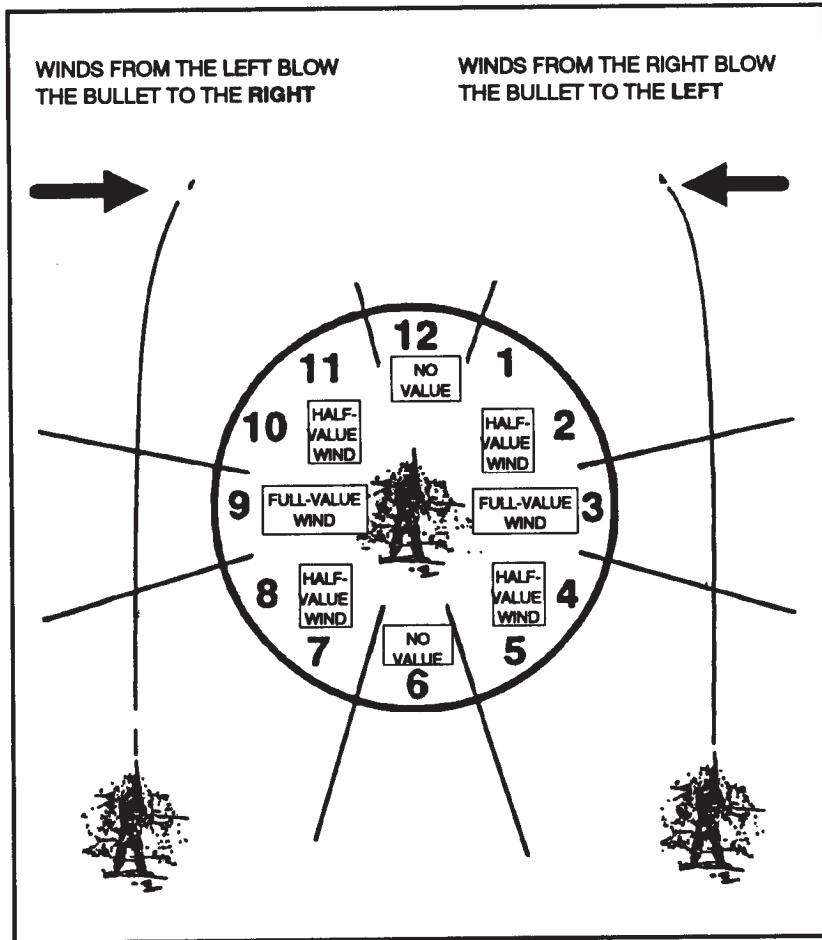

Figure 3-19. Clock system.
(3) *Humidity*. Humidity varies along with the altitude and temperature. Figure 3-19 considers the changes in altitudes. Problems can occur if extreme humidity changes exist in the area of operations. That is, when humidity goes up, impact goes down; when humidity goes down, impact goes up. Since impact is affected by humidity, a 20 percent change in humidity equals about one minute as a rule of thumb. Keeping a good sniper data book during training and acquiring experience are the best teachers.
b. Since the sniper must know how much effect the wind will have on the bullet, he must be able to classify the wind. The best method is to use the clock system (Figure 3-19). With the sniper at the center of the clock and the target at 12 o'clock, the wind is assigned three values: full, half, and no value. Full value means that the force of the wind will have a full effect on the flight of the bullet. These winds come from 3 and 9 o'clock. Half value means that a wind at the same speed, but from 1,2,4,5,7,8, 10, and 11 o'clock, will move the bullet only half as much as a full-value wind. No value means that a wind from 6 or 12 o'clock will have little or no effect on the flight of the bullet.